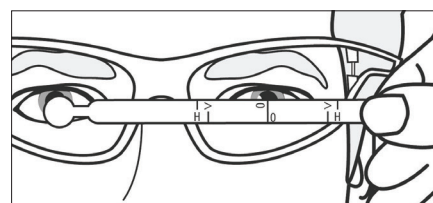

Figure 3: Horizontal Coverage
- II. Rotate the Coverage and Gap Gauge to the horizontal position and again centre the "0" line approximately in the middle of the wearer's pupil. Check the distance between the pupil and the inner edge (near the nose bridge) and the outer edge of the eyewear. The distance from the centre of the pupil to the inner and outer edge of the eyewear should meet or exceed the lines on the gauge marked with an "H" (Figure 3). Include the frame in the evaluation. Record the result on the Fit Evaluation Form under the "horizontal measurement" column. Repeat with the other eye.